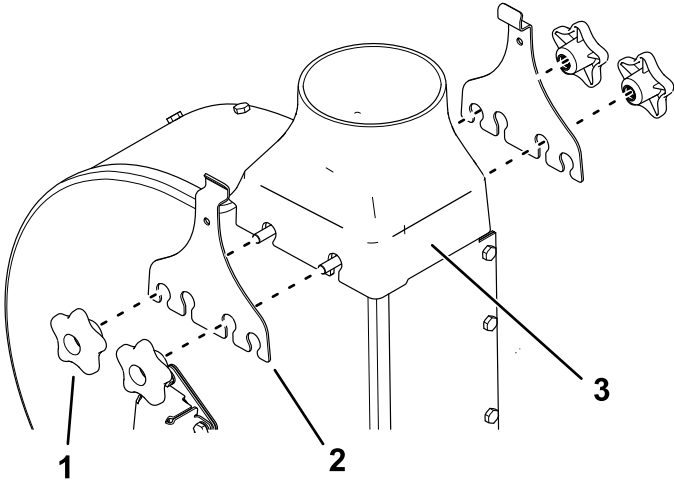

Figure 3
3. Remove the 4 knobs, 2 blower clamps, and blower transition from the blower assembly (Figure 3).